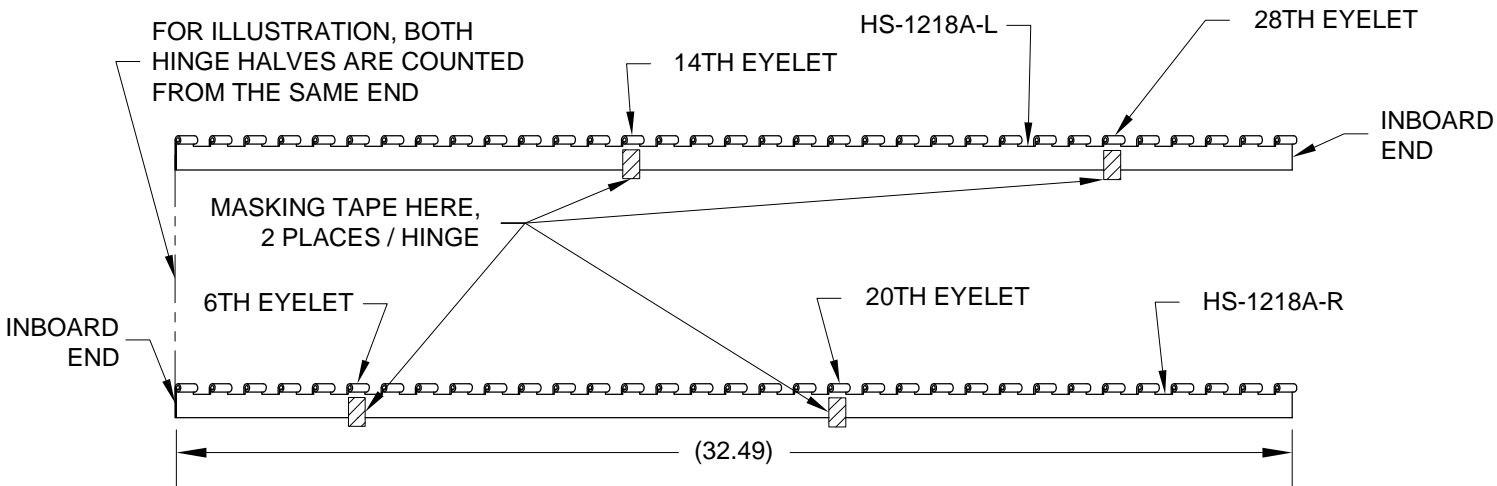

FIGURE 2:
Step 3: Mark one of the HS-1218A Aft Hinge halves as right and the other as left, and label the inboard end of each hinge as indicated in Figure 2.
Step 4: Apply masking tape to the HS-1218A-R and HS-1218A-L Aft Hinges as shown in Figure 2. Count from the same end of both hinge halves. Mask the HS-1218A-L at the 14th eyelet and the 28th eyelet. Mask the HS-1218A-R at the sixth eyelet and the 20th eyelet. These areas will be omitted when drilling in Step 5.